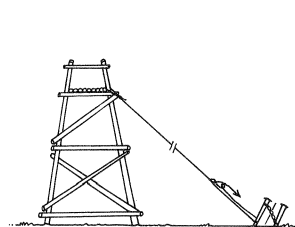

Figure 98
- To adjust the strain on the guy lines of a pioneering project or a flagpole (see figures 98 and 99)